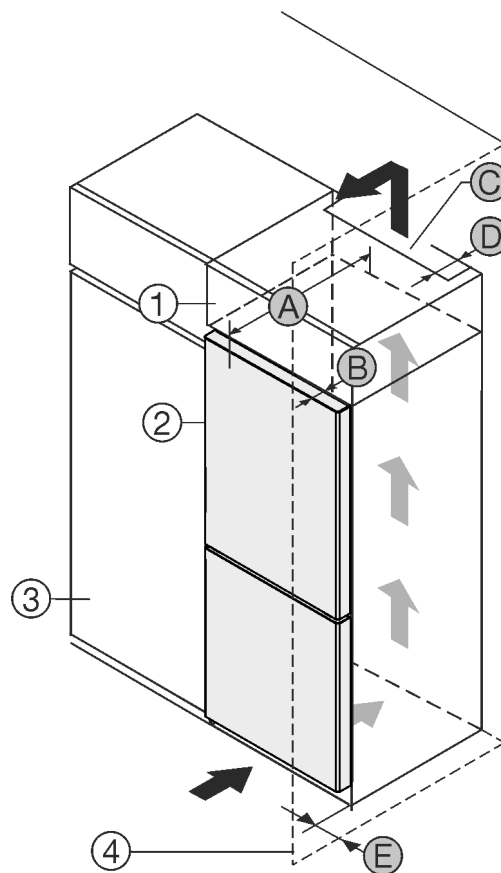

Fig. 1
- (1) Top cupboard*
- (2) Appliance*
- (3) Kitchen cabinet*
- (4) Wall*
- (A) Appliance depth*
- (B) Door depth*
- (C) Ventilation cross section*
- (D) Distance to the back of the appliance*
- (E) Distance to the side of the appliance*
You can place the appliance directly beside the kitchen cabinet Fig. 1 (3)*.
There must be a ventilation shaft at the depth Fig. 1 (D) of the back of the top cupboard over the entire width of the top cupboard.*
The ventilation cross-section Fig. 1 (C) must be maintained under the ceiling.*
If the appliance is set up with the hinges next to a wall Fig. 1 (4), the distance between the appliance and the wall must be at least 13 mm.*
If the appliance is set up with the hinges next to a wall *Fig. 1 (4)*, the distance between the appliance and the wall must be at least 20 mm.*
In order to be able to fully open the door, the appliance must protrude by the depth of the door *Fig. 1 (B)* from the front of the kitchen cabinet. The appliance may protrude further depending on the depth of the kitchen cabinets *Fig. 1 (3)* and whether wall spacers are used.*